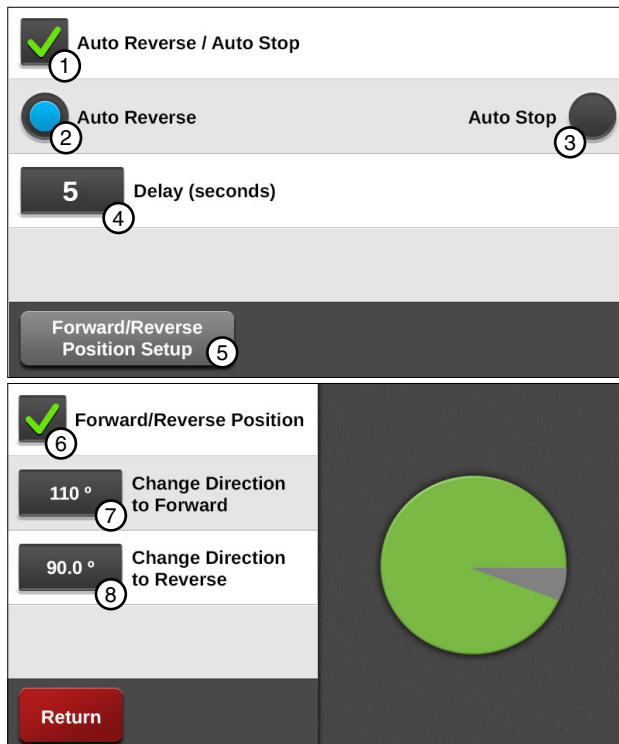

Figure 72-1
2. Check the **Auto Reverse/Auto Stop** checkbox to enable AR/AS or uncheck the Auto Reverse/Auto Stop checkbox to disable AR/AS. Refer to Figure 72-1.
1. Push **Menu**, **Utilities**, and **AR/AS** and push the **Forward/Reverse Position Setup** button to display the Forward/Reverse Position Setup screen. Refer to Figure 72-1.